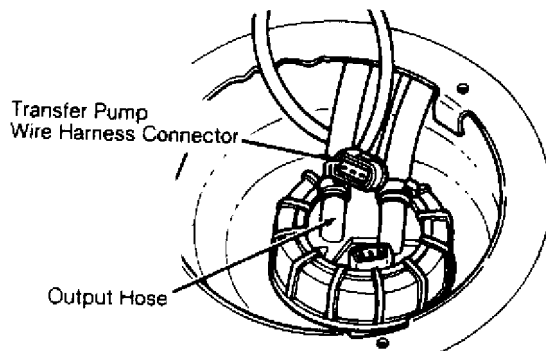

Fig. 1: Checking Transfer Pump Fuel Volume (Typical)
3) Remove fuel pump relay from relay panel. On Corrado and Passat, activate fuel pumps using Remote Control (VAG 1348/3A). On all other models, activate fuel pumps using Remote Control (US 4480/3). On all models, if pump does not operate, remove transfer pump wire harness connector. See Fig. 1.